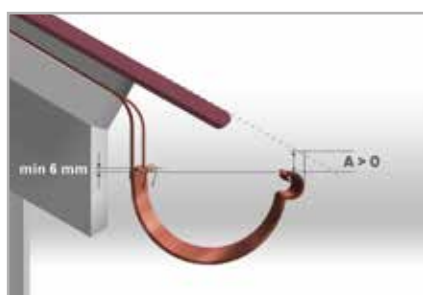

Fig. 1
- 1.5 The gutter should be positioned in relation to the roof end, so that the theoretical line drawn as its extension passes over the outer edge of the gutter (see the example application in **(Fig. 1)** and that rainwater falls into the gutter. If due to the construction of the roof, the line passes below the outer edge of the gutter, snow fences should be installed on the roof to protect the gutter from damage caused by sliding or piled up snow.